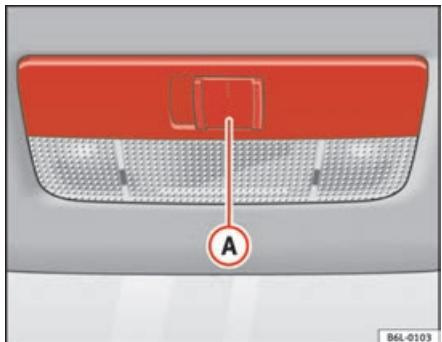

Fig. 62 Interior roof trim:
The switch (A) \Rightarrow fig. 62 is used to select the following positions:
Move the knob to the position O \Rightarrow fig. 62.